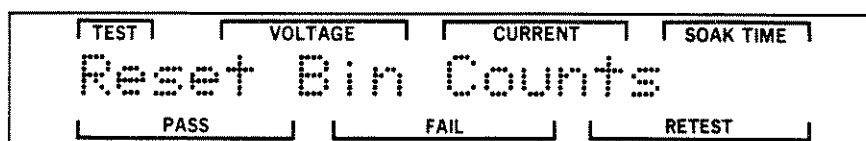

Figure 3-23. Reset Bin Count Totals Screen
STEP 3. Before any other values can be changed, the Bin Count totals must be reset to 0. Press the RIGHT pushbutton to display one of the Detail screens. Press the UP or DOWN pushbutton until the Reset Bin Count Totals screen is displayed. Figure 3-23 is an example of this screen.